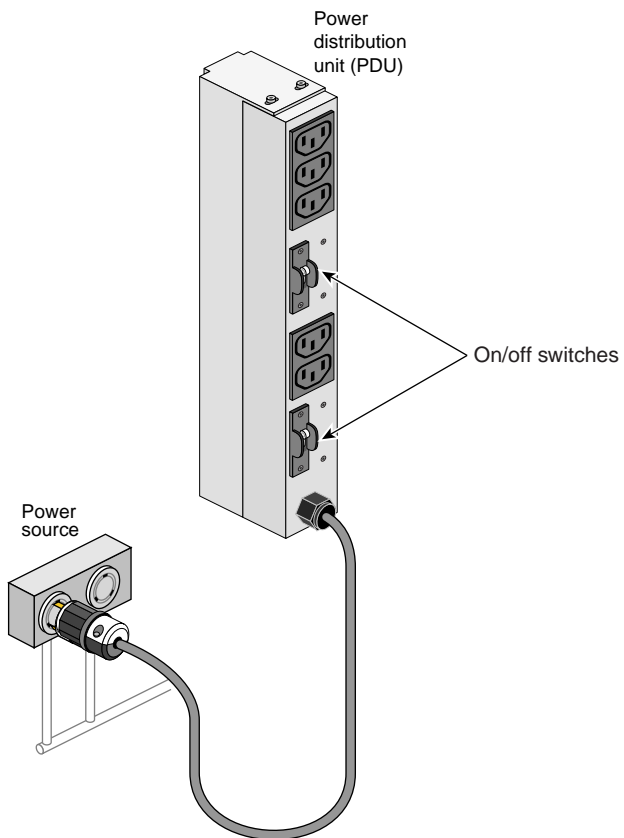

Figure 2-2 Single-Phase Rack PDU Circuit Breaker Switches
4. Make sure that all PDU circuit breaker switches (see the example in Figure 2-2 on page 53) are turned on to provide power to the server system when it is switched on.